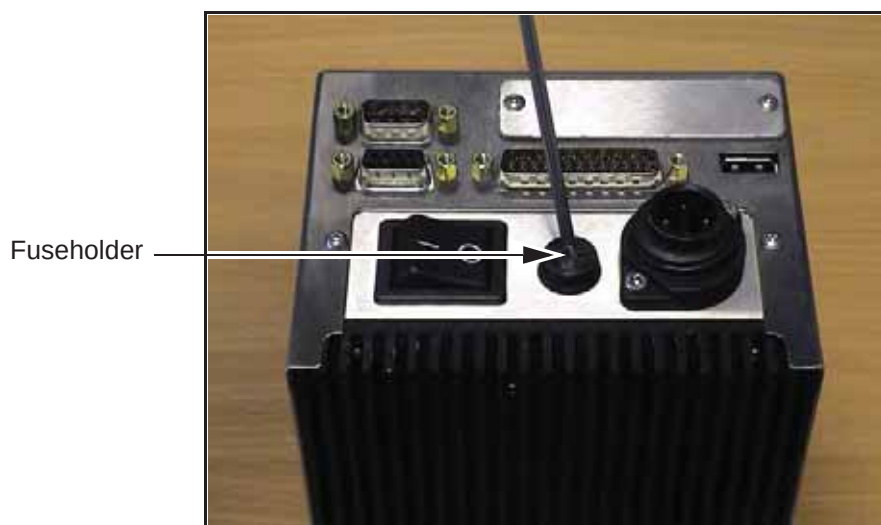

Figure 5-1: Fuseholder
- 1 Using a small screwdriver, press and turn the fuseholder anticlockwise, and remove the fuseholder (Figure 5-1).